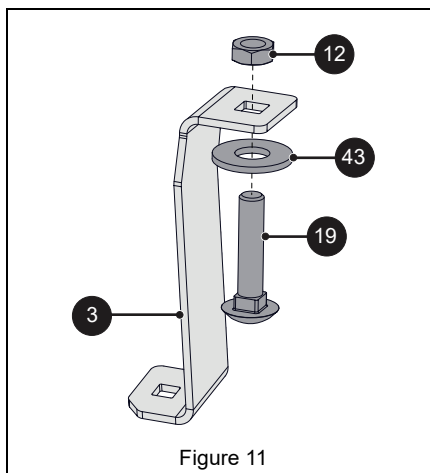

Figure 11
1. Install 5/16" x 1 1/2" round head square neck bolt (item 19) through belt cover bracket (item 3) with 5/16" hex jam nut (item 12) and 7/16" x 1" x 3/32" flat steel washer (item 43). Bolt is installed in tab without trimmed corner. See Figure 11.